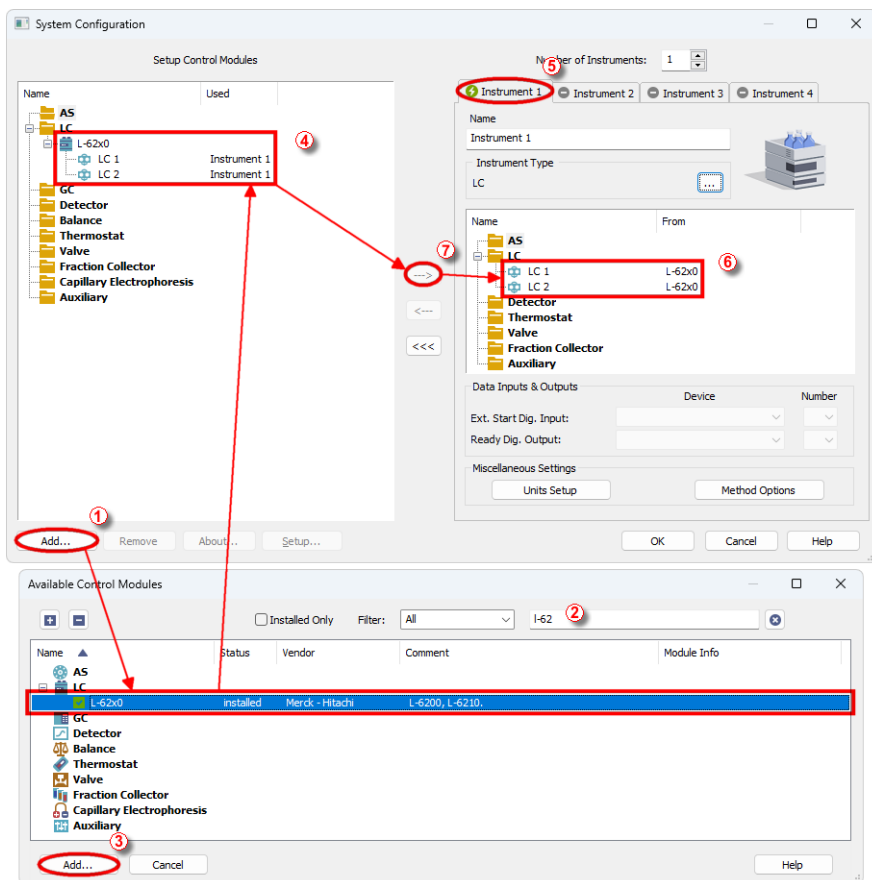

Fig. 3: System Configuration
- Press the **Add** button ① (see Fig. 3 on pg. 4.) to invoke the **Available Control Modules** dialog.
- You can specify the searching filter ② to simplify the finding of the driver.
- Select the **L-62x0** and press the **Add** ③ button.